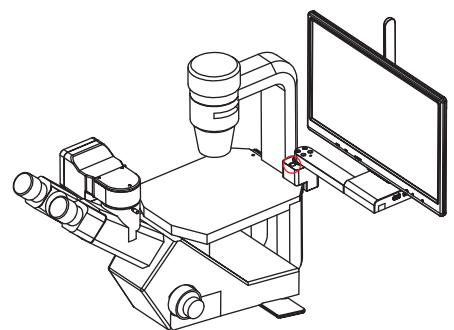

图3
2) Mount the display on the side of the microscope using an Allen wrench to tighten the 2 screws, as shown in Figure 3;